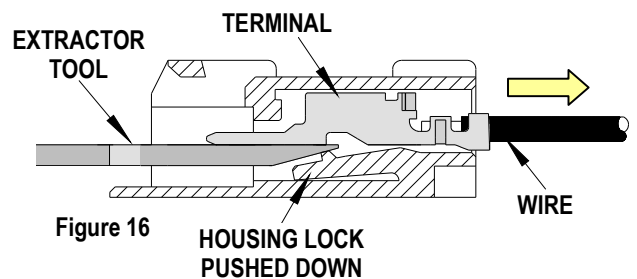

Figure 16
2. While depressing the housing lock, push the terminal back through the connector slot and pull the terminated wire out in the arrow direction. See Figure 16.